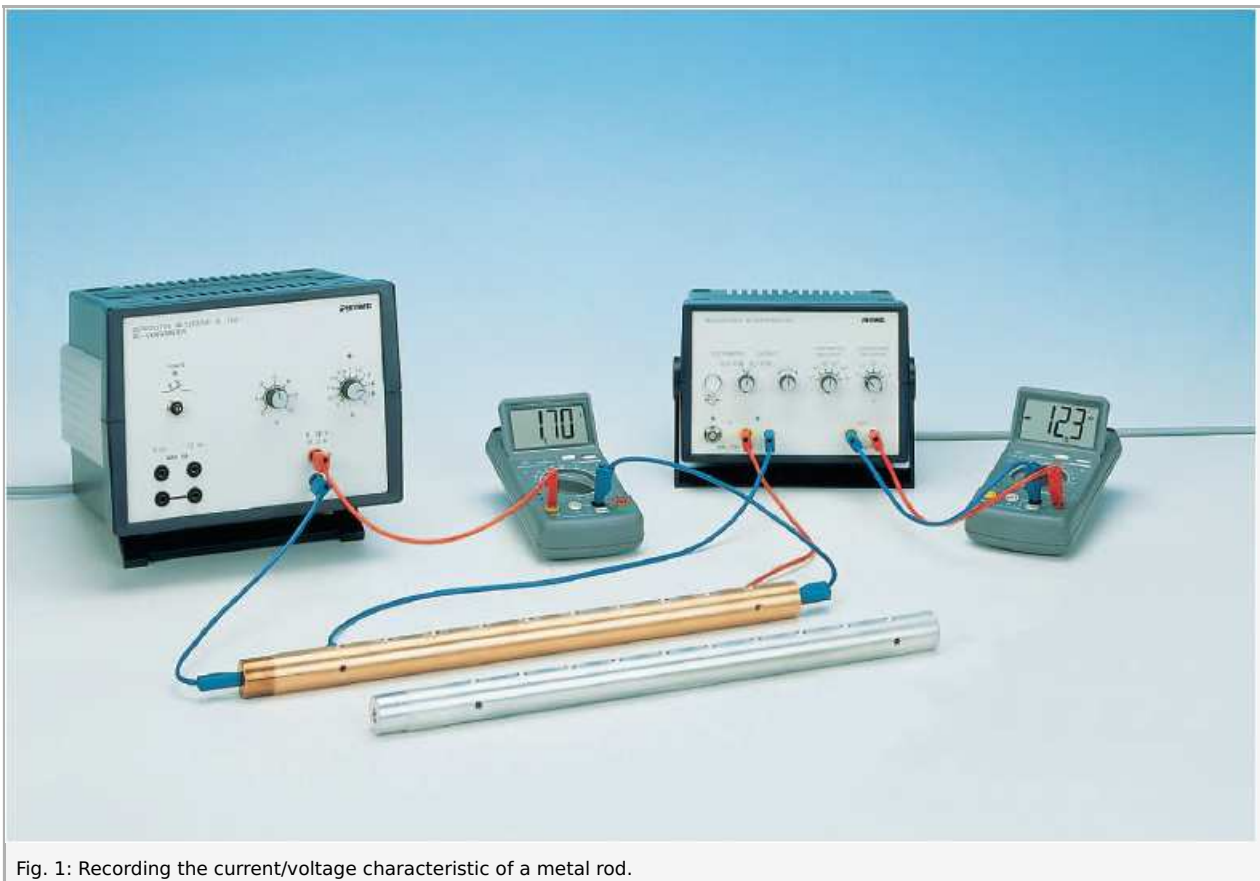

Fig. 1: Recording the current/voltage characteristic of a metal rod.
1. Connect the metal rod to the mains with an ammeter. Measure the voltage drop across the rod at two sockets on the side, using the amplifier (four-wire method of measurement, see Fig. 1).